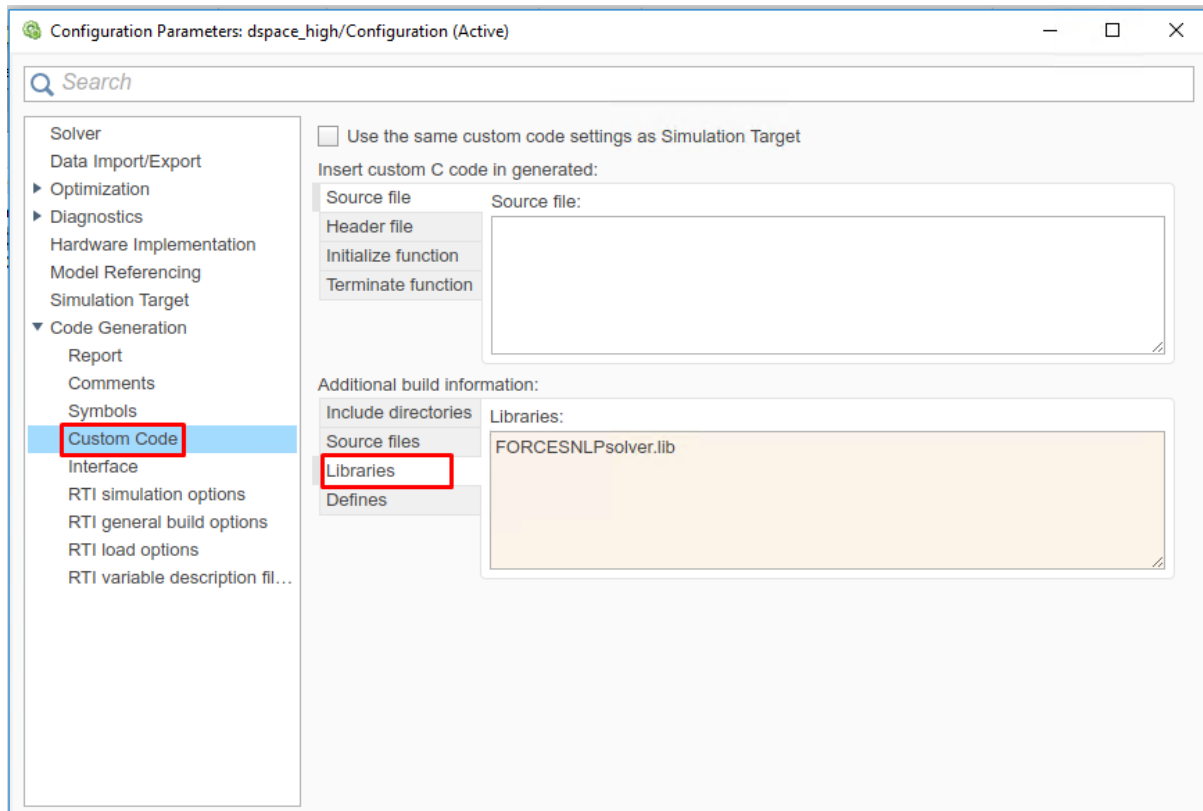

Figure 13.12: Add the libraries used for the code generation.
12. (Figure 13.12) In the “Code Generation/Custom Code” tab, add the library file: